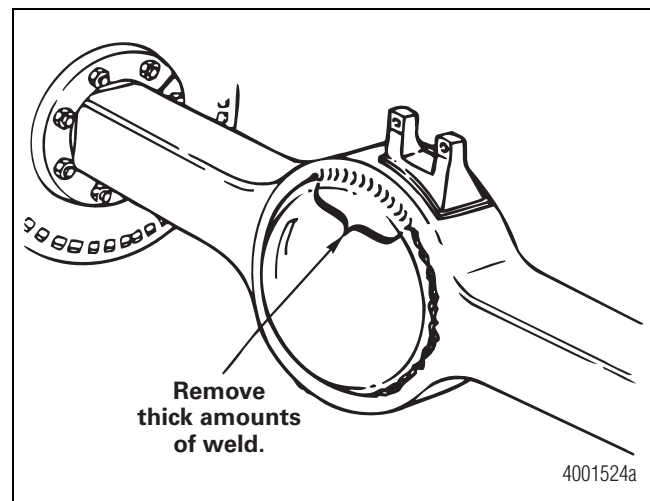

Figure 3.6
- After gouging is completed, remove any thick amounts of weld material that remain on the housing and cover with rough grinding. Figure 3.6.